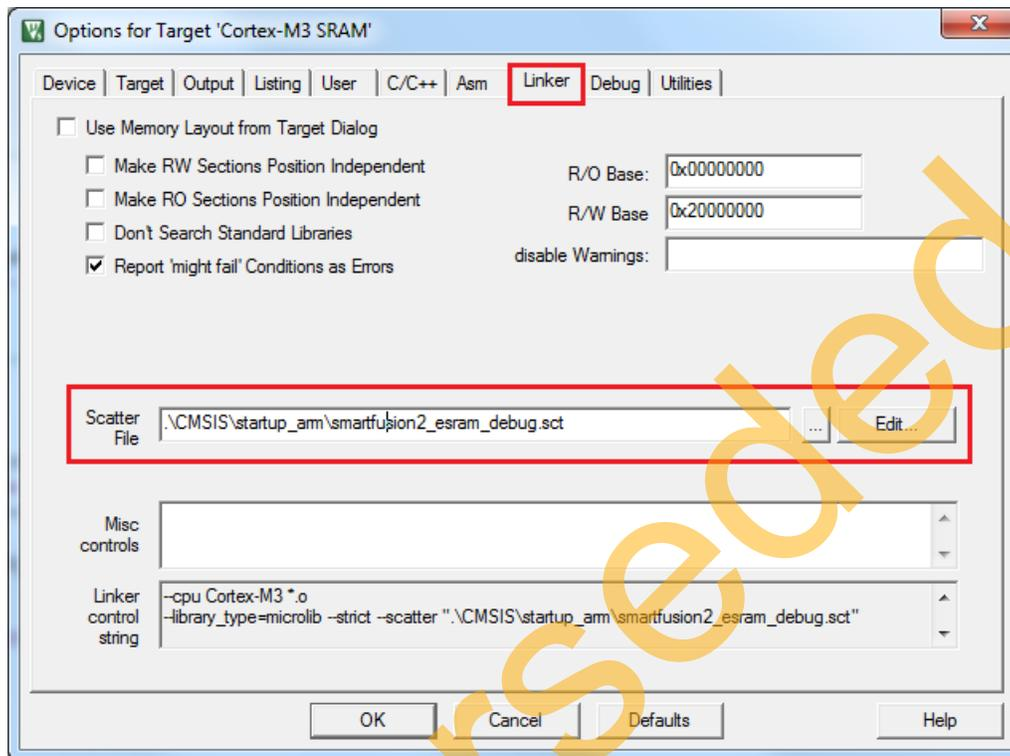

Figure 30 • Target Options - Scatter File
- Click the **Linker** tab and navigate to the sf2_spi_flash_keil_liberov11p4_tu_dfLiberoproject\Keil\CMSIS\startup_arm folder to select the **Scatter File** as smartfusion2_esram_debug.sct, as shown in Figure 30.